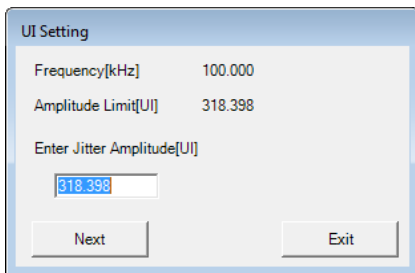

Figure 47 Enter SJ Amplitude Dialog Box
- 1 Click **Start(S)** to commence the Jitter Performance Measurement. For each SJ frequency test point, a dialog box appears where you must enter the desired SJ amplitude value. See Figure 47.